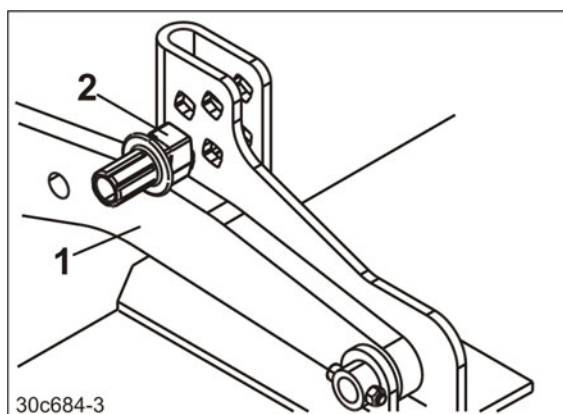

Fig. 80
2. Lift the implement just enough for the depth setting pins (Fig. 80/2) to clear the carrying arms (Fig. 80/1).
4. Position the leading tyre packer at the same height as the trailing roller (Fig. 80/2).
2. Raise the implement until the carrying arms are resting on the lower stop (Fig. 80/1).
3. Insert the depth setting pin in the lowest position (Fig. 80/2).